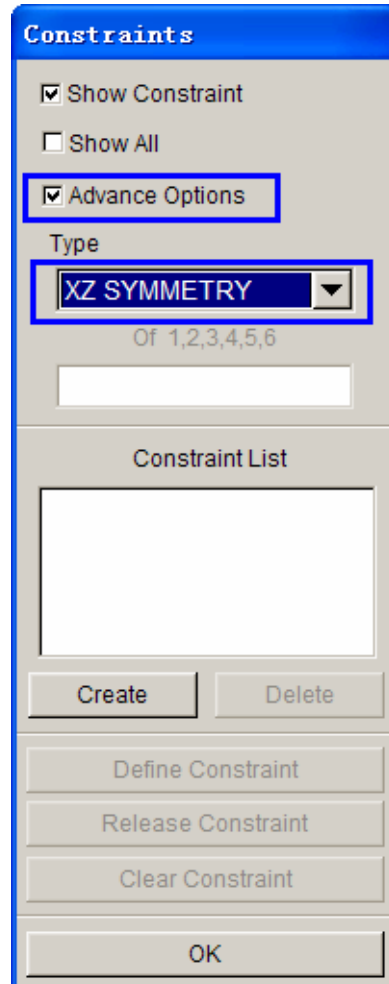

Figure 3.27: Define Constraints dialog box
- 1) It's necessary to set symmetry constraint, since taking only 1/2 component to analysis in this example. Select the Constraint button in the STEP dialogue window to pop up the Constraint dialogue window, then define the symmetry constraint. See figure 3.27.